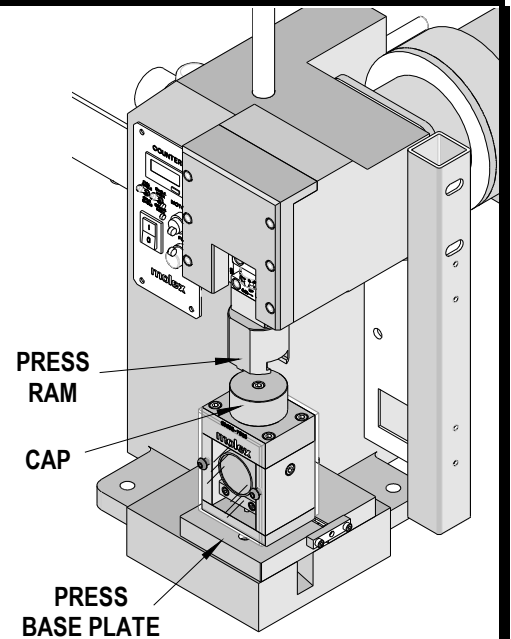

Figure 2
5. Place the Shut Height Gauge in the press with the cap centered under the ram and the bottom plate resting flat on the press base plate. See Figure 2.